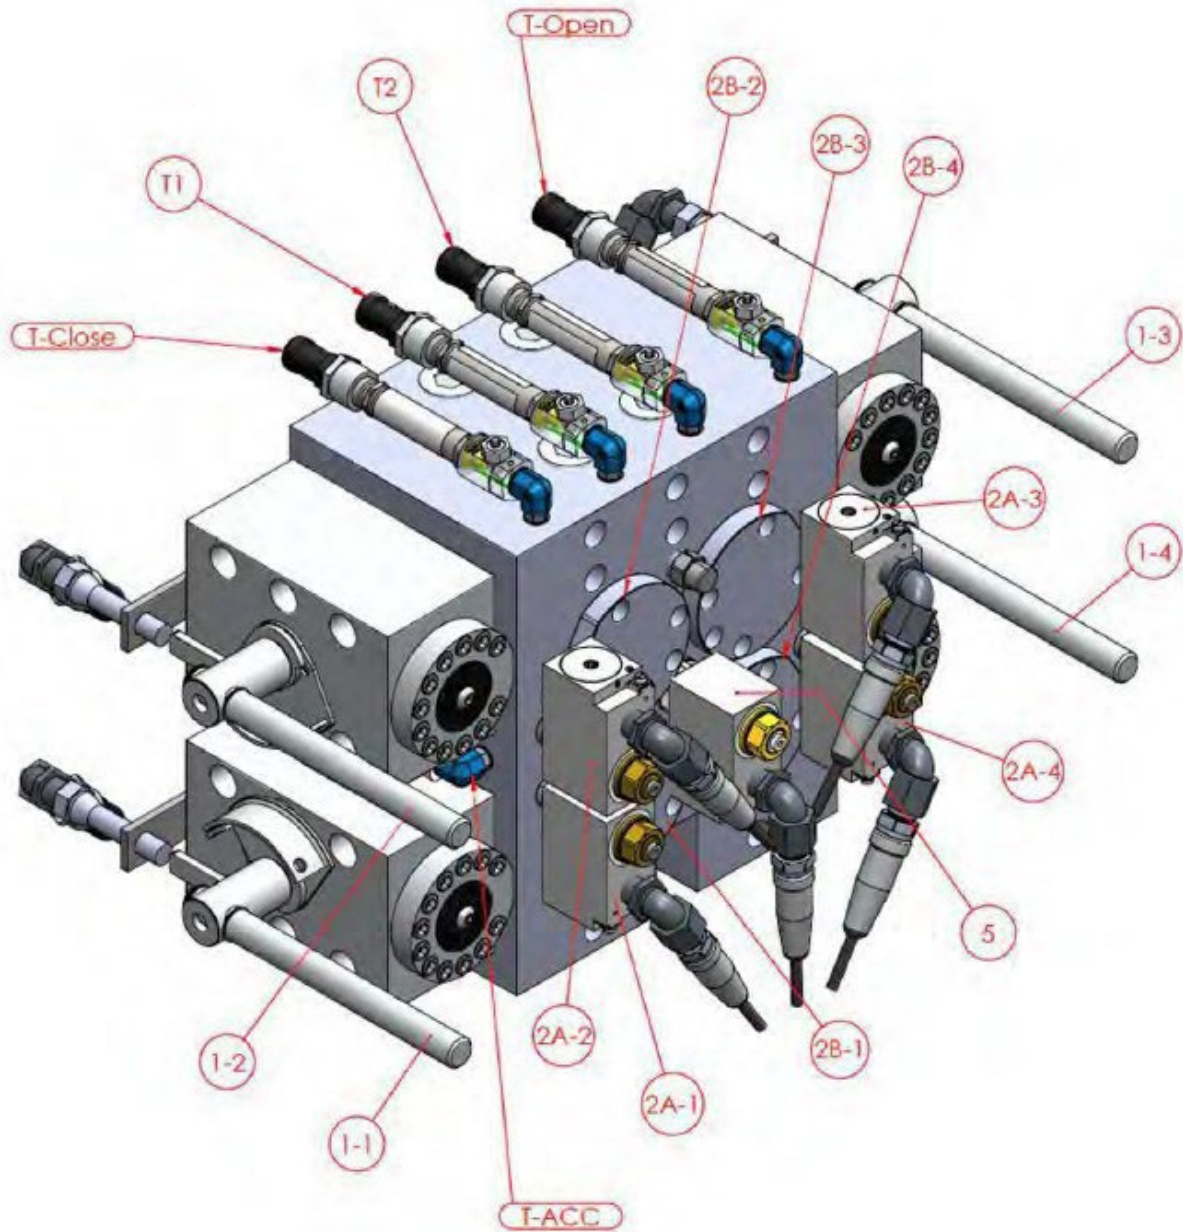
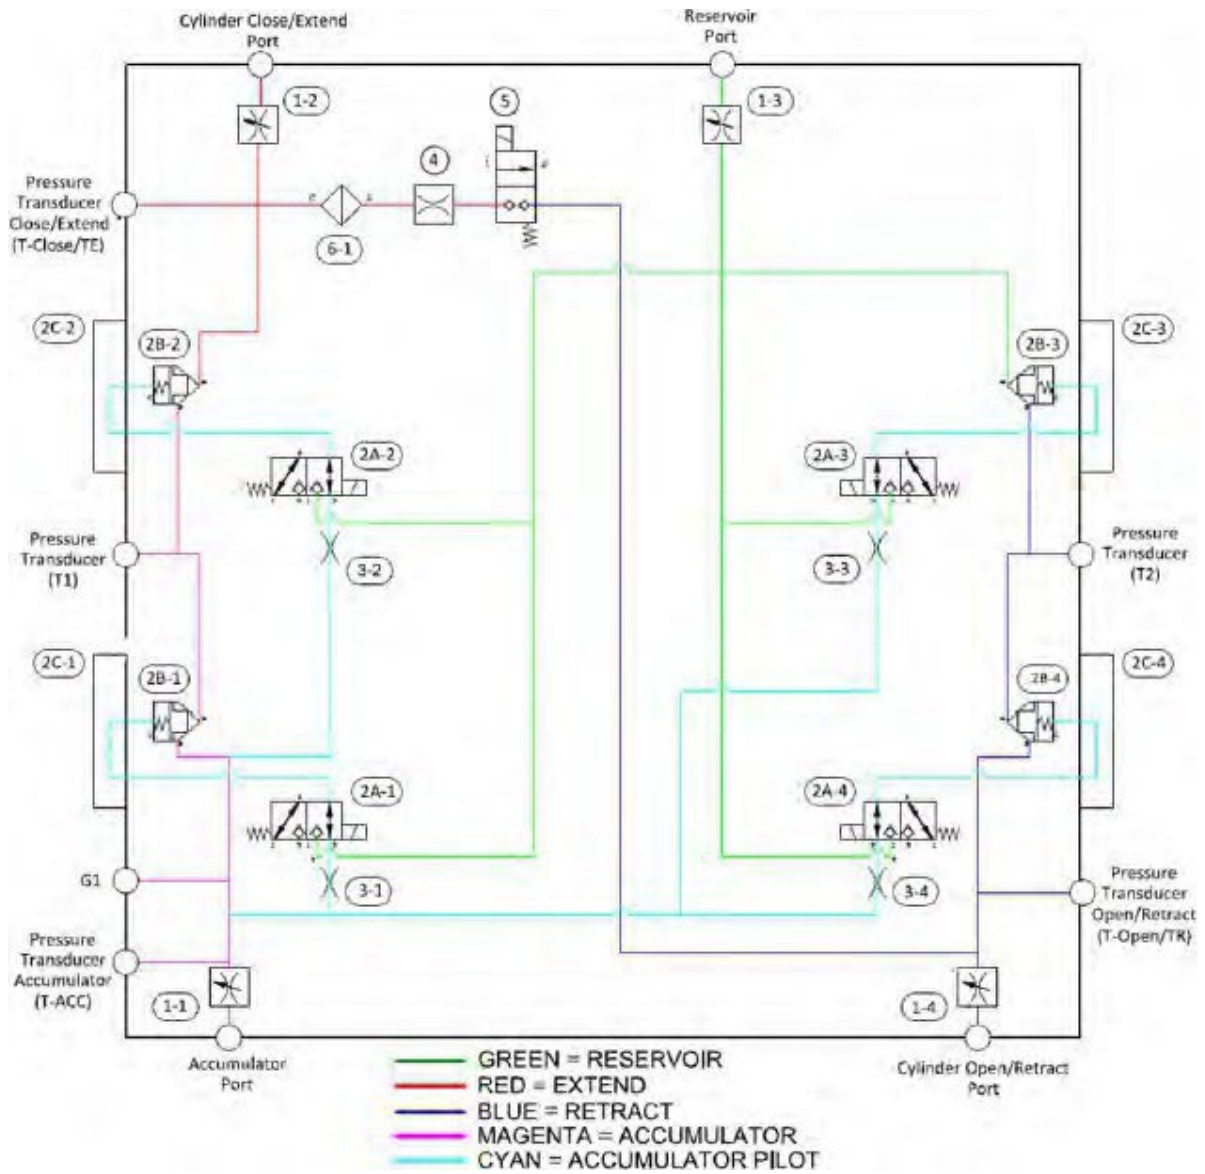

Figure 2: Trip Block Assembly
Figure 3: Trip Block Hydraulic Schematic
The trip block manifold shown in figure 2 is used to control the accumulator trip function and facilitates the online testing of the individual trip valves. Contained in the trip block are four solenoid valves (2A-1, 2A-2, 2A-3 and 2A-4) and four pilot to close check valves (2B-1, 2B-2, 2B-3 and 2B-4) that control the trip function. The combined function of a solenoid valve and its pilot to close check valve will be referred to as the “Trip Valves”. The four trip valves can be online tested to ensure they are operationally ready to perform their trip function on demand. The trip block contains four manual isolation valves (1-1, 1-2, 1-3 and 1-4) to isolate the manifold during trip valve testing. These isolation valves also facilitate the ability to isolate and replace any of the trip valves while the actuator is still able to position in remote mode. Five pressure transducers (T-Open, T-Close, T-ACC, T1 and T2) are mounted on the trip block manifold and are used to monitor thrust of the actuator (T-Close/TE and T-Open/TR), accumulator pressure (T-ACC) and internal manifold pressure (T1 and T2) to facilitate the online testing of the trip valves.
[Refer to Figures 2 and 3 on next pages]
4. Upon successful completion of the API Test sequence the mode will change back to **Auto** or **Local Man** and report an API Pass in the display for ~2 minutes. If a failure occurs the corresponding test failure will be displayed. See Automated test sequence reference below and Appendix F for failure details. The automated testing sequence provided for reference below. Valve identification numbers are shown in Figure 2 and Figure 3.